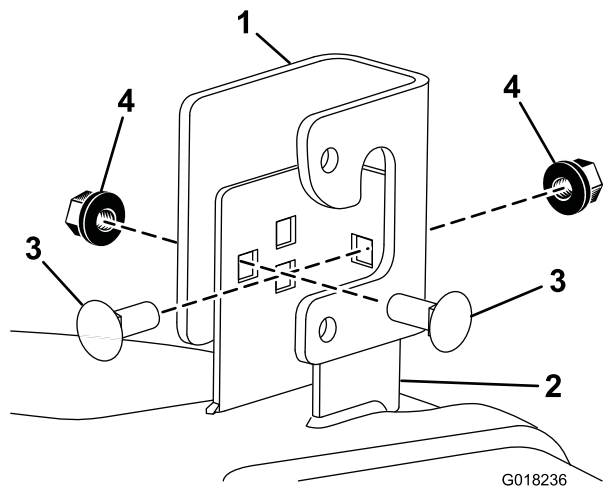
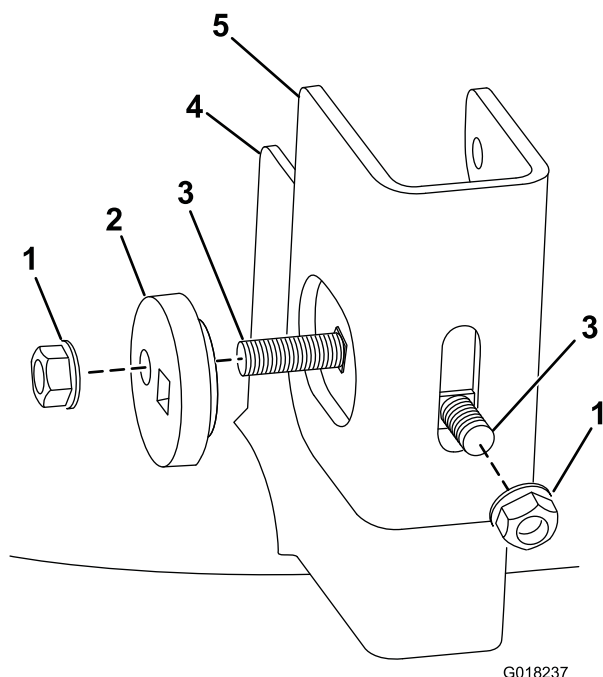

Figure 3
Figure 4
5. Install the new hanger brackets on the deck brackets as shown in Figure 3 and Figure 4.